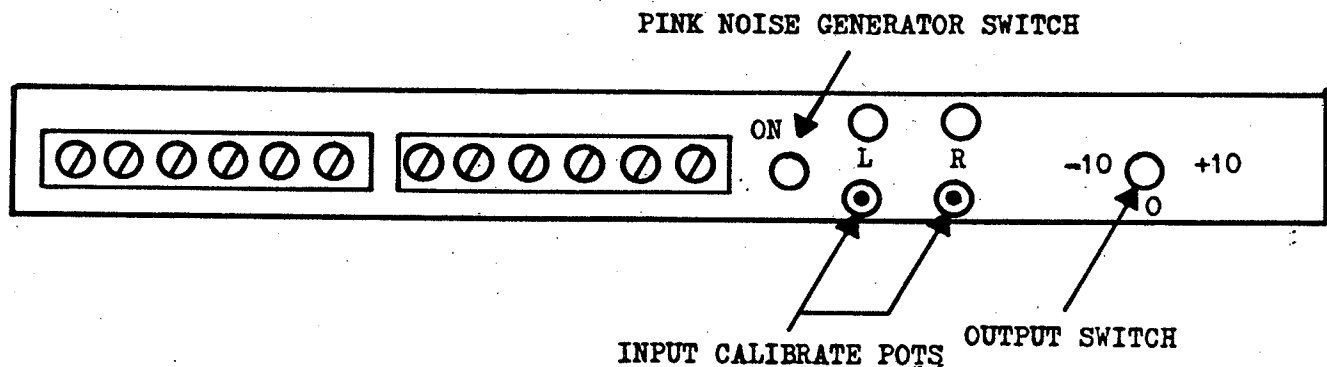

FIGURE 3-7 PINK NOISE GENERATOR SWITCH
3.2.3 Pink Noise Generator Switch (Figure 3-7)